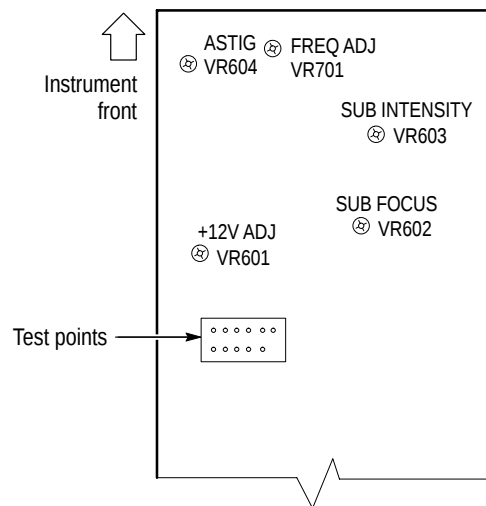

Figure 11: Power and High Voltage Board (Viewed from the Instrument Bottom)
To locate the adjustment for the following procedure, refer to Figure 11. The Power and High Voltage board occupies the bottom-left side of the instrument below the CRT.
5. Adjust VR701 on the Power and High Voltage board until one cycle spans five divisions. See Figure 11 for the adjustment location.